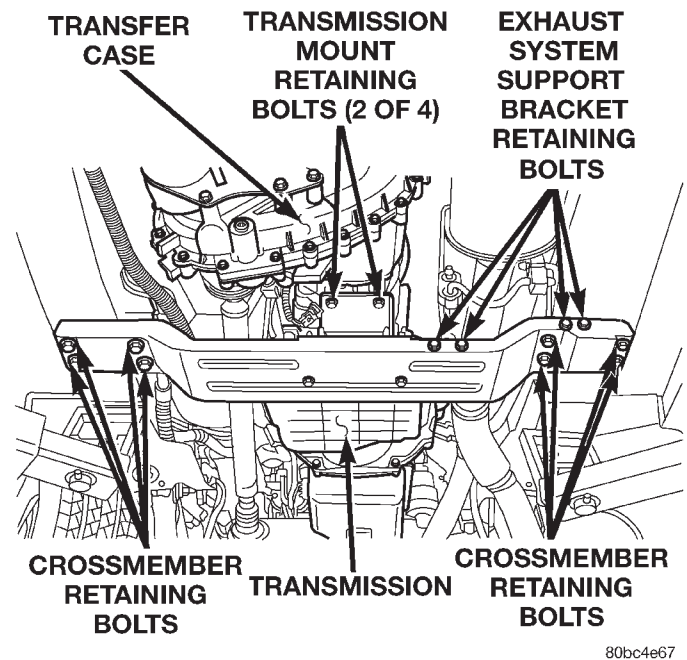

Fig. 26 Transmission Support Crossmember
(23) Raise the transmission assembly back into position and install the eight transmission crossmember retaining bolts (Fig. 26). Torque the bolts to 41 N·m (30 ft. lbs.).